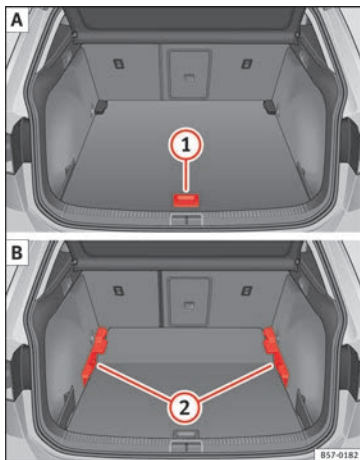

Fig. 169 Luggage compartment variable floor: **A** raised position; **B** lowered position.
- To move from the low position to the high position, lift the floor using the handle » **Fig. 169** **1**, and pull it back until the front of the floor has fully passed the supports **2**.
- To move from the high position to the low position, lift the floor using the handle » **Fig. 169** **1**, and pull it back until the front of the floor has fully passed the supports **2**.
- Lift the variable floor in the high position using the handle **①** » Fig. 169, pull it up and push it towards the backrest of the rear seats until the floor folds along the hinge line and the movable part of the floor is resting on itself.
- To move from the high position to the low position, lift the floor using the handle » Fig. 169 **①** and pull it back a little.
- Push the variable floor towards the folded rear seats with the handle **①** using some downward pressure so that the moving part of the floor is flush with the backs of the rear seats.